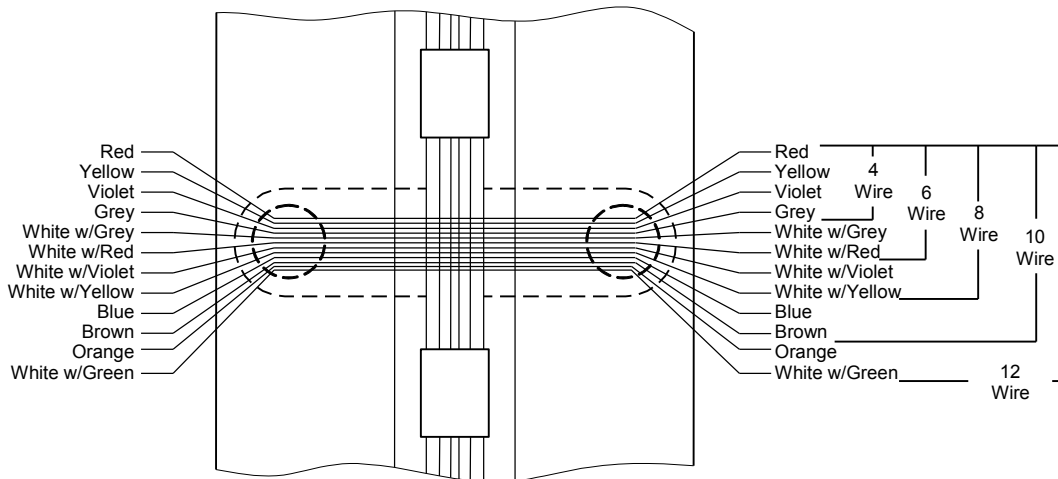

Fig. 2
1. Connect the system wires from the door to the appropriate leads of the hinge door leaf (as described in the system wiring diagram). See Fig. 2. Insulate the bare end of any unused wires.
3. Position the door at 90 degrees to the frame and connect the system wires from the frame to the appropriate leads of the hinge frame leaf. See Fig. 2. Insulate the bare end of any unused wires.